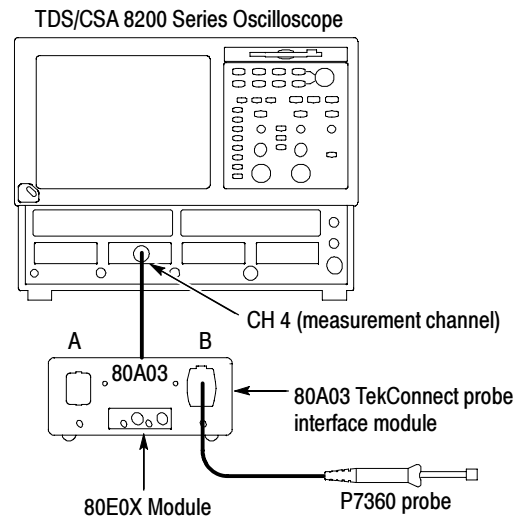

Figure 11: Preliminary test setup
1. Connect the 80A03 TekConnect probe interface to channels 3 and 4 of the TDS 8200 oscilloscope. See Figure 11.